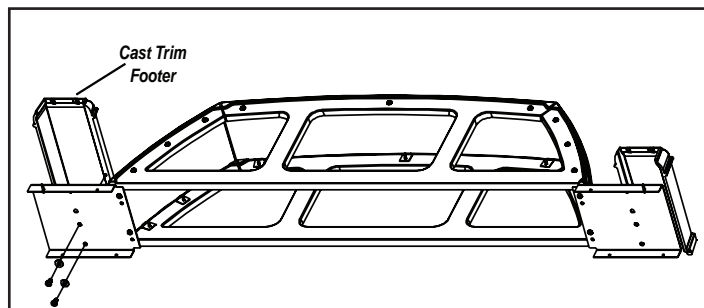

Figure 20.4
7. Attach cast footers. **Figure 20.4.**